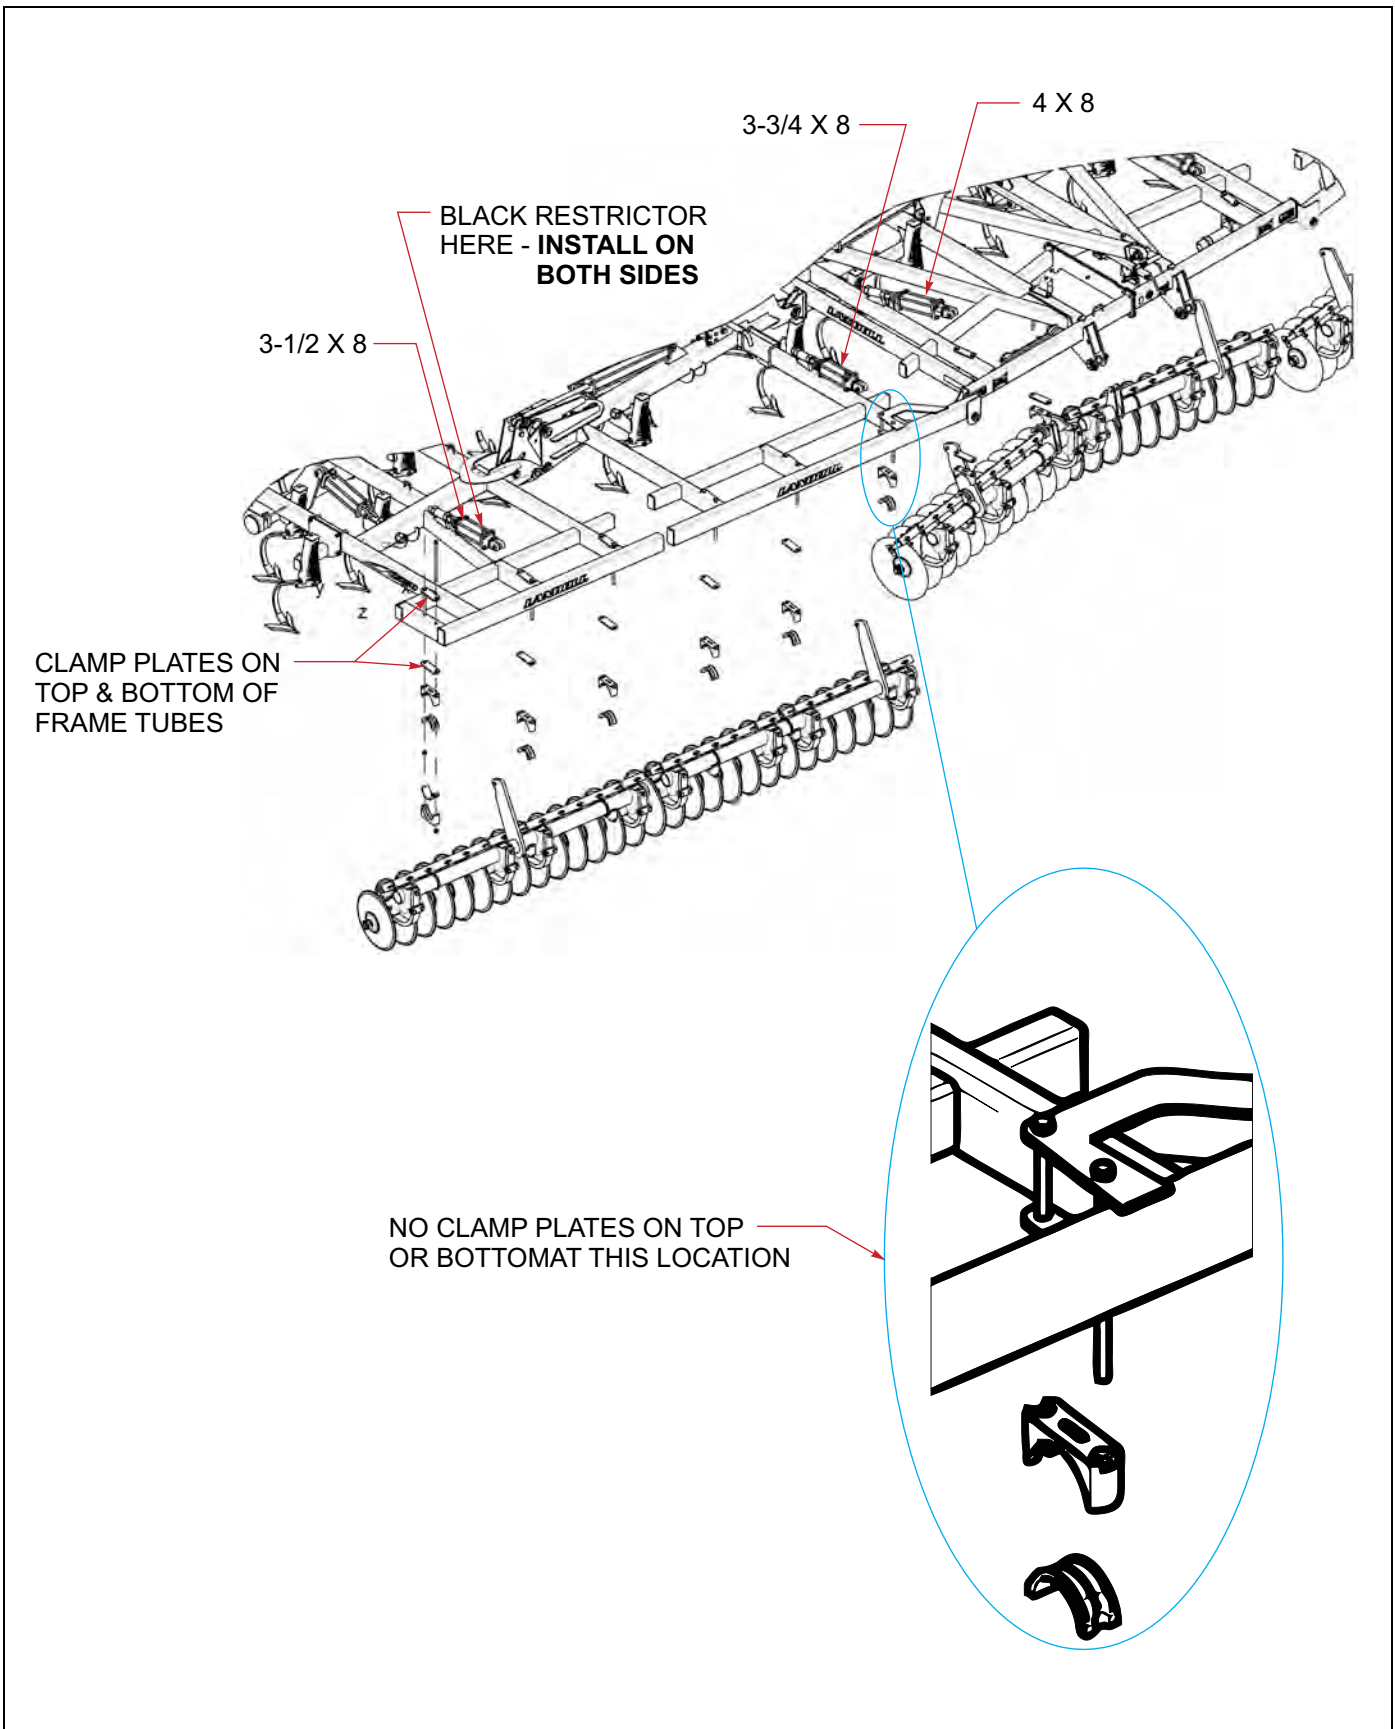

Figure 3-16: Disc Gang Installation (2 of 2)
6. Align the cylinder mounts on the disc gang assemblies with the mounts on the center frame to properly position the gangs. All of the mounting locations except the inner most wing location will have two hole clamp plates on the top and bottom of the frame (**See Figure 3-16.**)
7. Install the hydraulic cylinders for the gangs by attaching the base end of the cylinder to the adjustable mount on the frame and the rod end to the gang assembly with the ports pointing upward. The center frame will have 4 x 8 cylinders, the inner wing will have 3-3/4 x 8, and the outer wing 3-1/2 x 8 cylinders. Each cylinder will have regular 90 degree fittings installed into them facing to the rear of the machine. The outer wing cylinders will have a 1/16" restrictor (black fitting) installed into the rod end as shown in **Figure 3-16.**